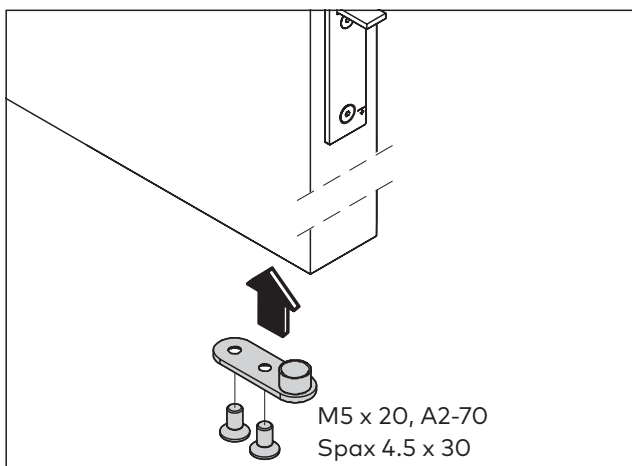

Fig. 46 Mount lower guide
8. Mount the lower guide for the espagnolette bolt on the passive door leaf (Fig. 46).